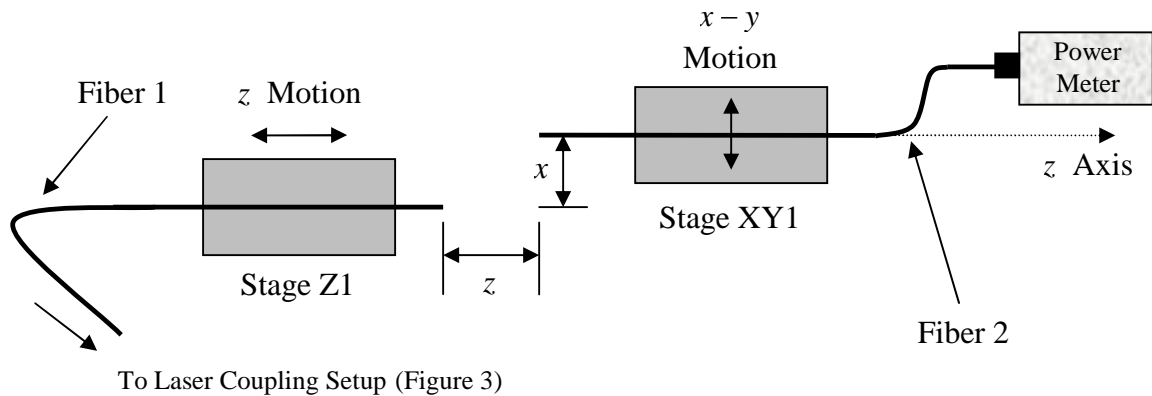
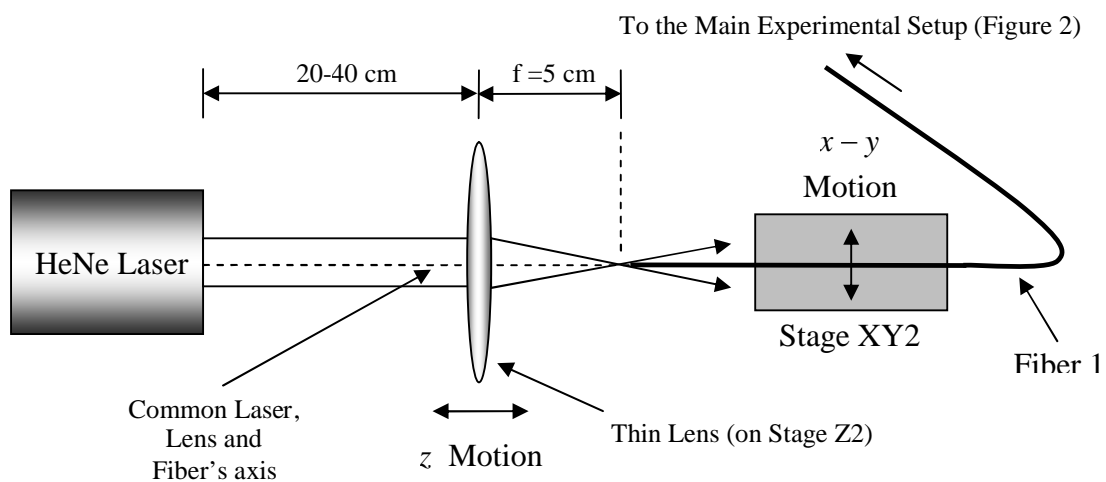

Figure 2: The Main Experimental Setup.
Figure 3: Laser Coupling Setup.
- 2- Connect one end of fiber 1 to the first z stage (Z1), as shown in Figure 2 (main experimental setup).
5- Now, refer to the HeNe lens laser/fiber setup shown in Figure 3. Adjust the distance from the laser output end to the thin lens to about $20-40\text{ cm}$. The laser light must pass through the center of the lens (exactly) and should be perpendicular to the lens. [*Refer to the laser/fiber lens coupling procedure done in experiment 5*].
12- The power meter should show a substantial reading (much more than -60 dBm). If the meter's reading is too low, visually check the fibers' alignment (Figure 2) or the location of fiber 1 tip with respect to the focused laser light (Figure 3). You may also need to check the connection to the power meter.
15- Use the power meter's reading to also fine tune the fibers' alignment (Figure 2), until you obtain maximum power reading [*Do not change the value of z while you are doing this step*].